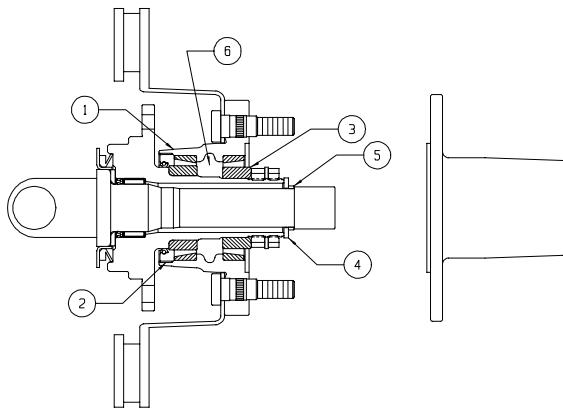

Figure 7. Bearing and seal installation.
2. Pack wheel hub inner diameter (See Figure 7, Flag 6) with wheel bearing grease.
5. Install packed bearing into cup on inboard side of wheel hub. (See Figure 7, Flag 1)
6. Apply additional grease around back side of installed bearing. (See Figure 7, Flag 2)
7. Fill large radial seal cavity with grease. Press large radial seal into seat of inboard side of wheel hub. (See Figure 7, Flag 2) Seal may protrude slightly from wheel hub.
9. Install outer bearing (See Figure 7, Flag 3).
1. Place splined washer completely onto axle shaft. See Figure 7, Flag 4.
2. Place c-clip on inboard side of axle shaft splines. See Figure 7, Flag 5